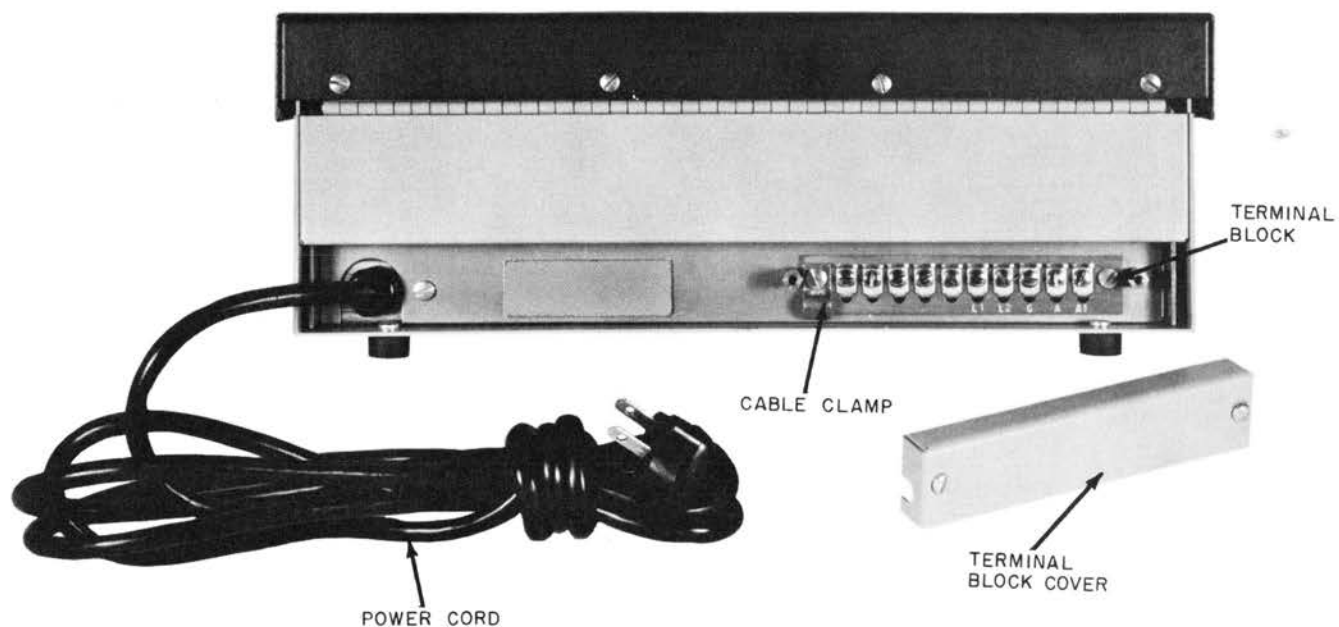

Figure 2. Model AO-3 (rear view).
2.05 Connect a three wire, insulated cable (preferably of red, green, and yellow insulation) to the terminal block. Connect red lead to L1, green to L2, yellow to G (see figure 2). Secure the cable clamp and replace the terminal block cover.
2.07 At 10A1 (or 1A1) key system installations, terminate A and A1 leads on terminal block terminals so designated (see figure 2).